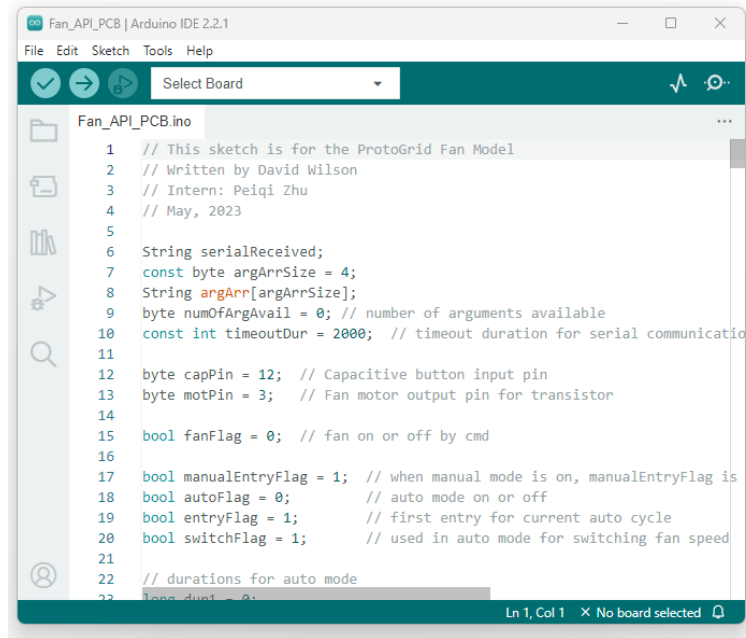

Figure 1.4 Arduino IDE with Fan Module code
- Open the *Fan_API_PCB.ino* file. This will open the Arduino IDE with the Fan Module code as shown in Figure 1.4.